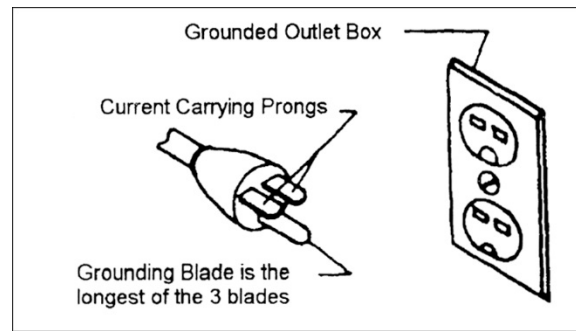

Figure 3
3. The 115V attachment plug, supplied with the planer/molder, must be replaced with a UL/CSA listed plug suitable for 230V operation, similar to the one shown in Figure 3. Contact your local Authorized JET Service Center or qualified electrician for proper procedures to install the plug. The planer/molder must comply with all local and national codes after the 230 volt plug is installed.
- The planer/molder with a 230 volt plug should only be connected to an outlet having the same configuration as illustrated by the grounded outlet box in Figure 3. No adapter is available or should be used with the 230 volt plug.